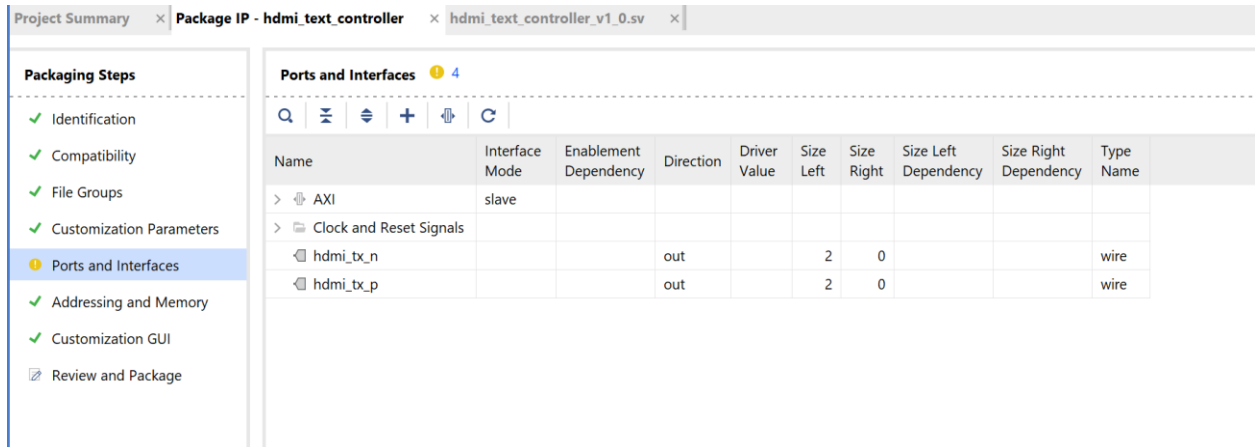

Figure 14 - Ports and Interfaces
10. Our HDMI Text Controller IP also needs to have a HDMI output, so we will add that interface. Switch over to the Ports and Interfaces panel. If there is a warning which asks you to merge changes, click on it and merge the changes. If you do not get the option to merge changes, see the side note on the right side. If you do automatically get the note to merge changes, go ahead and click on that option and the additional signals should appear as in Figure 14. This will add any new inputs and outputs in the IP-top level to the IP graphical interface. Since the provided `hdmi_text_controller_v1_0.sv` file has ports for the HDMI output, we need to tell IP Packager about the HDMI port so that it appears correctly when we go to add the new IP to your block design. Switch over to Ports and Interfaces and click the “+” symbol.